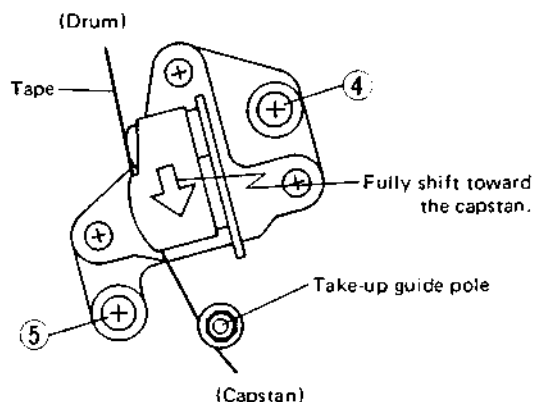

Fig. 2-4-16 Control head phase adjustment
- 2) Loosen screws ④ and ⑤. Shift the A/CTL head assembly fully in the direction of the capstan. See Fig. 2-4-16.
- 3) Cover screw ④ with the A/CTL head position tool and set the pin of the tool into the hole next to screw ④.
- 5) Tighten screws ④ and ⑤ for fixing the A/CTL head assembly.